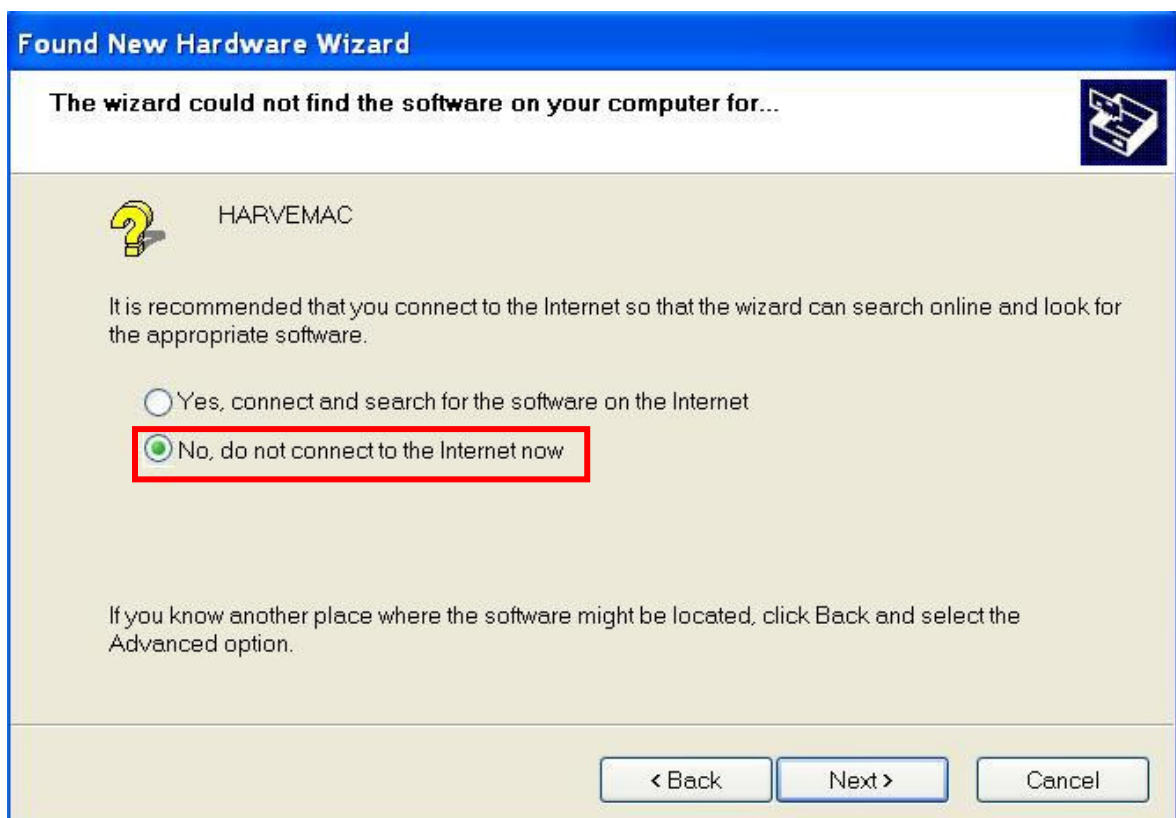

Figure 5
4. Select "No, do not connect to the internet now", as figure 5.